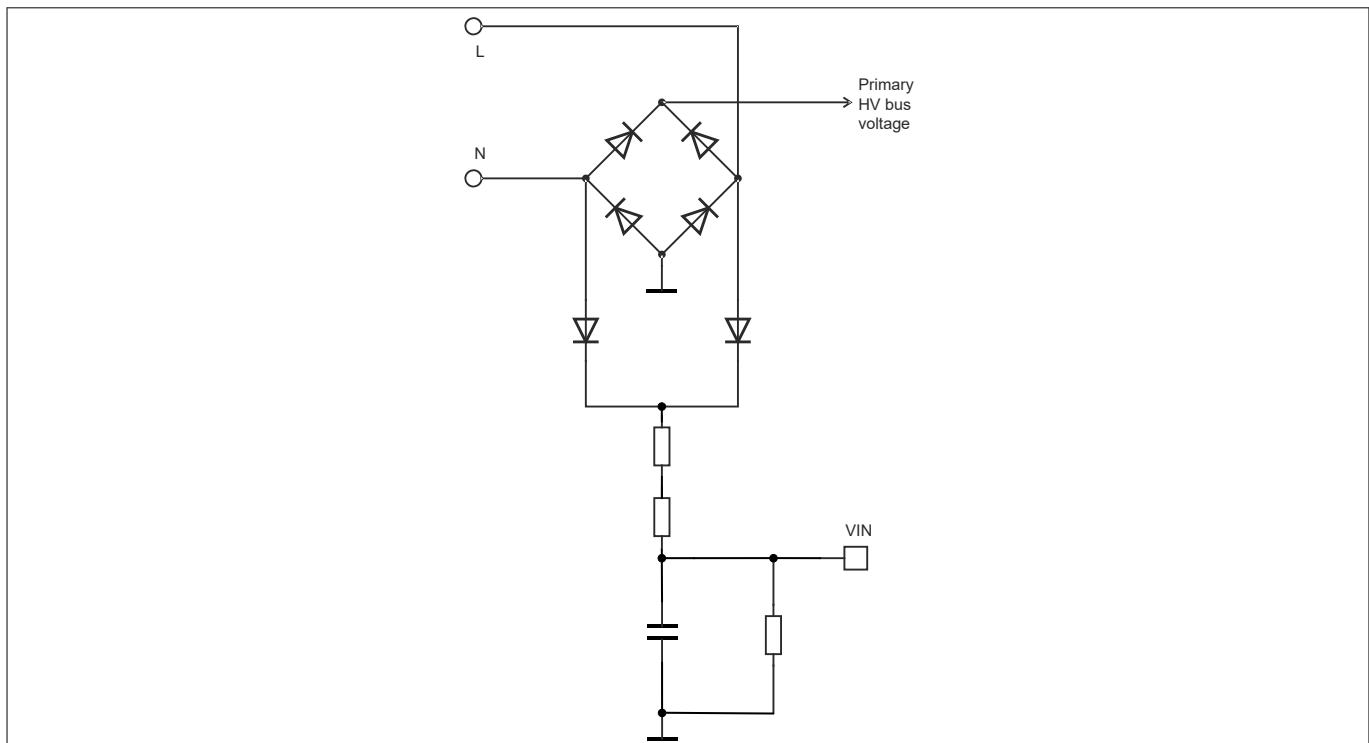
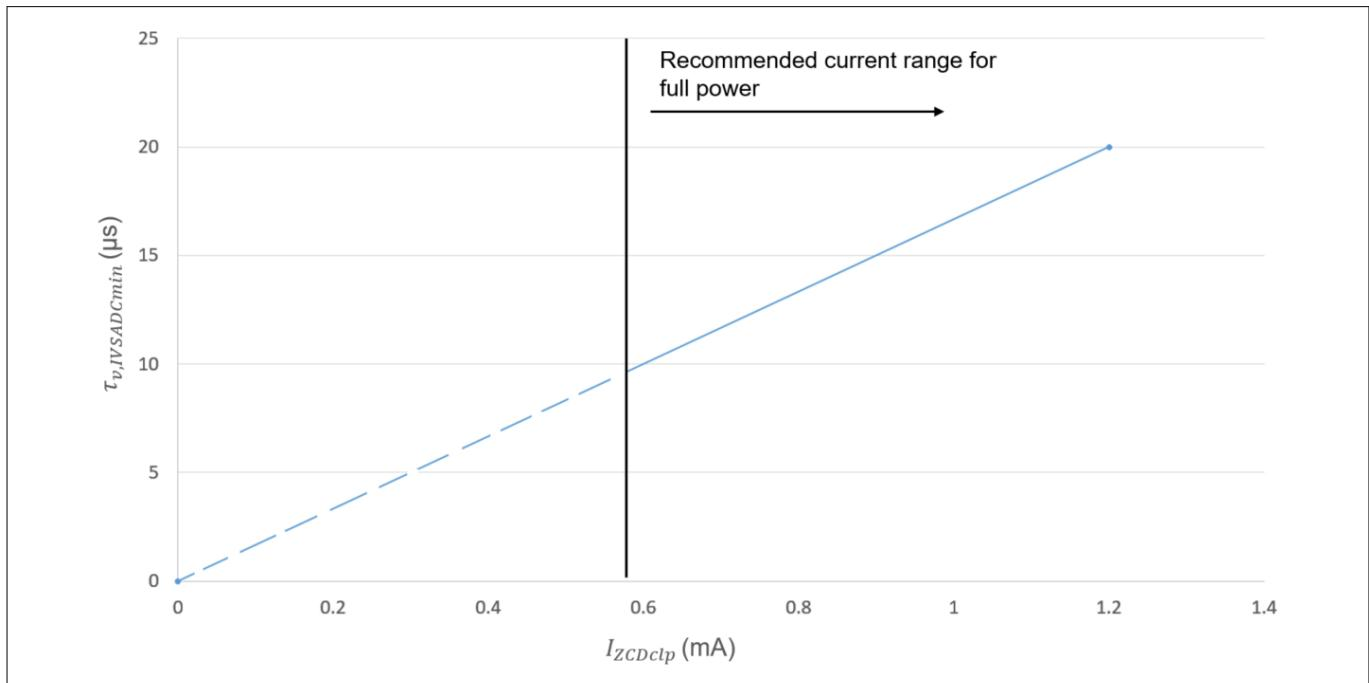
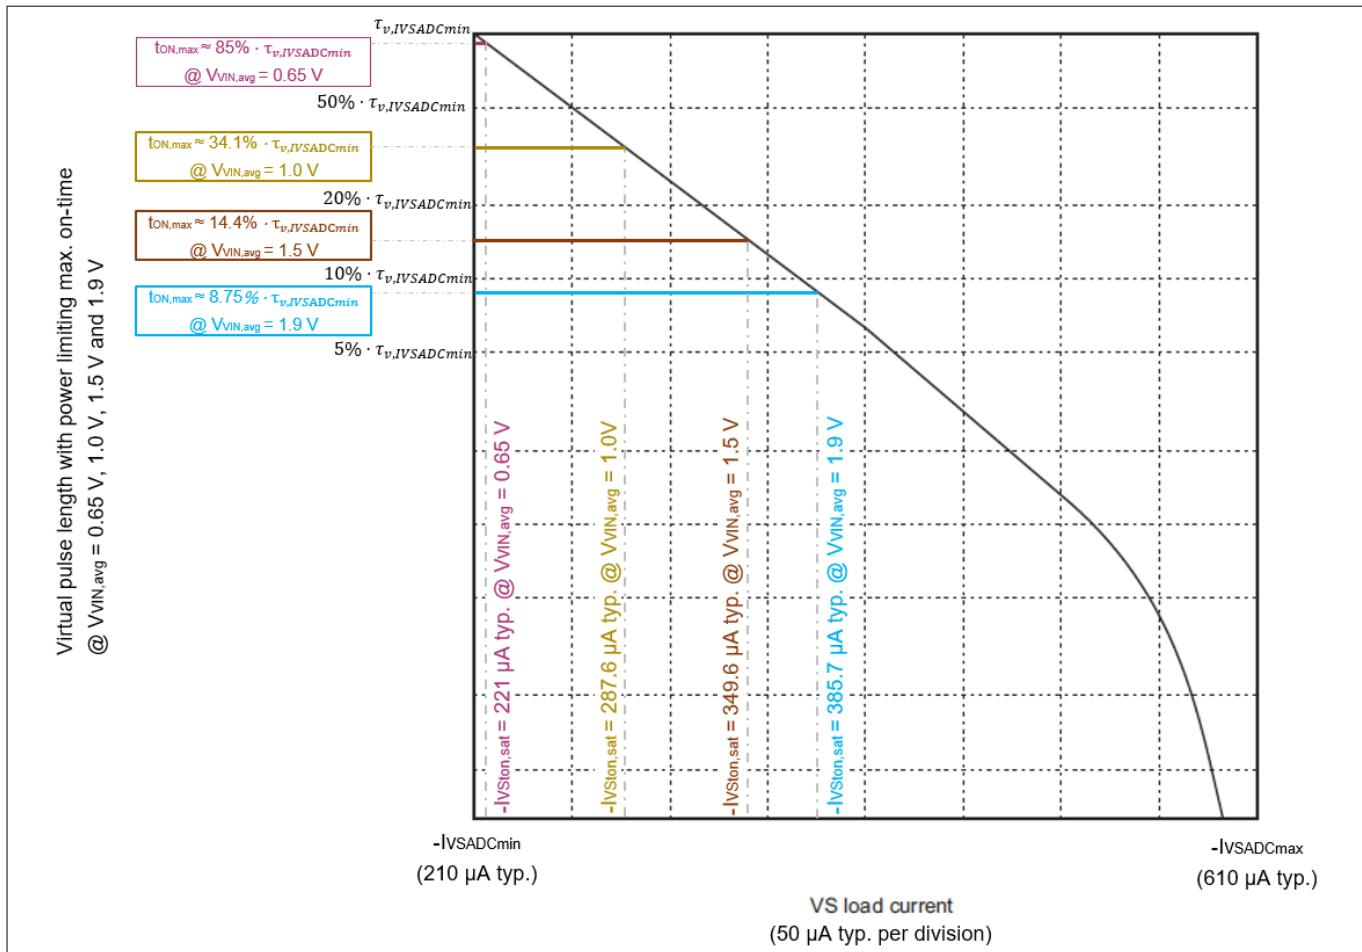

Figure 6 V_{IN} pin circuit
Figure 14 Virtual pulse length at $I_{VSADCmin}$, $\tau_{v,IVSADCmin}$ versus ZCD peak to peak settled clamping current, I_{ZCDclp}
Figure 15 Virtual pulse length mapping with power limiting maximum on-time effect
1. Based on $I_{ZCDclp} = 1.2$ mA, obtain $\tau_{v,IVSADCmin} = 20$ μ s from Figure 14.
For $t_{ON,max}$ estimation, it is important to note that $\tau_{v,IVSADCmin}$ changes with different $V_{VIN,avg}$ level, when the input voltage detection circuit in Figure 6 is applied. This is because $\tau_{v,IVSADCmin}$ is scaled depending on I_{ZCDclp} in Figure 14, while I_{ZCDclp} is dependent on the input voltage, as explained in ZCD pin signal sensing.
Figure 15 shows the virtual pulse length with the power limiting maximum on-time effect, when $V_{VIN,avg}$ is 0.65 V, 1.0 V, 1.5 V and 1.9 V, respectively.
When $V_{VIN,avg}$ is at the brownin level ($V_{BI} = 0.65$ V typ.), the power limitation is enabled with $t_{ON,max} = 85\%$ of $\tau_{v,IVSADCmin}$, as shown in Figure 15. For example, if the desired $t_{ON,max}$ at brownin level is 17 μ s typ., it is necessary to have $\tau_{v,IVSADCmin} = 17 \mu$ s / 85% = 20 μ s. And, according to Figure 14, $\tau_{v,IVSADCmin} = 20 \mu$ s is obtained when $I_{ZCDclp} = 1.2$ mA is applied. As a result, to achieve $t_{ON,max} = 17 \mu$ s typ. at brownin level, R_{ZCD} should be dimensioned to produce $I_{ZCDclp} = 1.2$ mA typ. at brownin level.